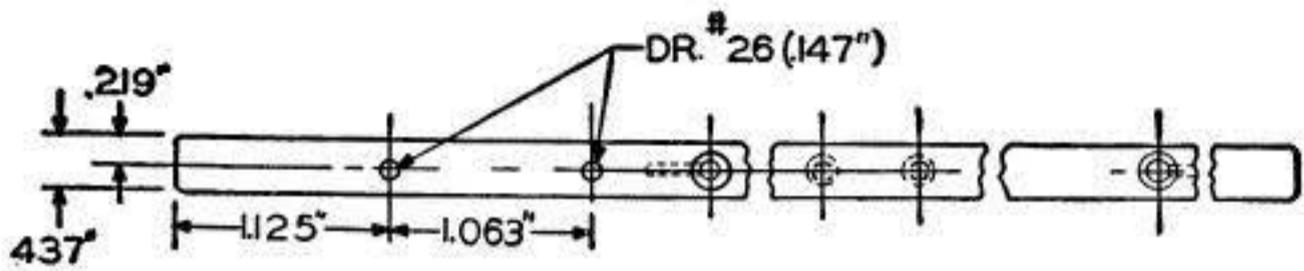

Fig. 1
- 3.10 Remove the TP74200 upper carriage track and drill two holes in it as shown in Fig. 1. Remount the track so that these two holes in the end will be at the left side of the typing unit; i.e. above the selector assembly. **Fig. 1**